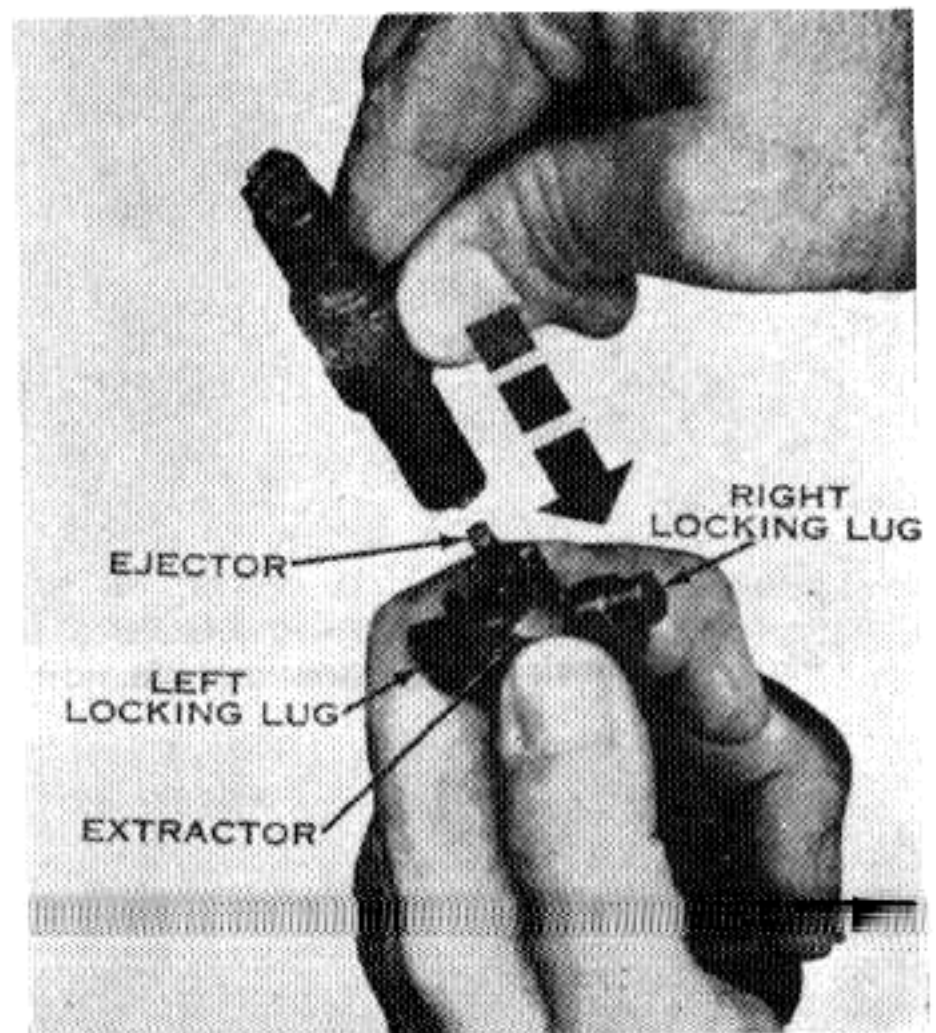

Fig. 68. Assembling the bolt.
(4) To assemble the bolt, insert the firing pin, making sure that the tang fits into its recess in the rear of the bolt. Hold the bolt in your left hand with the face up, the operating lug to the right, and with the rear end on a solid surface. Replace the ejector and the ejector spring so that the cut on the ejector is toward the operating lug. Replace the extractor spring and plunger. Place the stud of the extractor into its hold in the bolt and press lightly on the extractor with the left thumb until it begins to ride over the extractor plunger. Place the disassembling and assembling end of the M10 cleaning rod handle (or the tip of a cartridge) so that the cutout portion will fit over the ejector and the blade is positioned to line up between the bottom of the extractor and the lower cartridge seat flange (Fig. 68). Press downward on the cleaning rod handle until the ejector is forced into the face of the bolt, and at the same time, press inward on the extractor with your left thumb, seating it.
(5) To assemble the bolt while it is in the rifle, replace the parts as described in (4), above. Place the screwdriver blade end of the M10 clean-